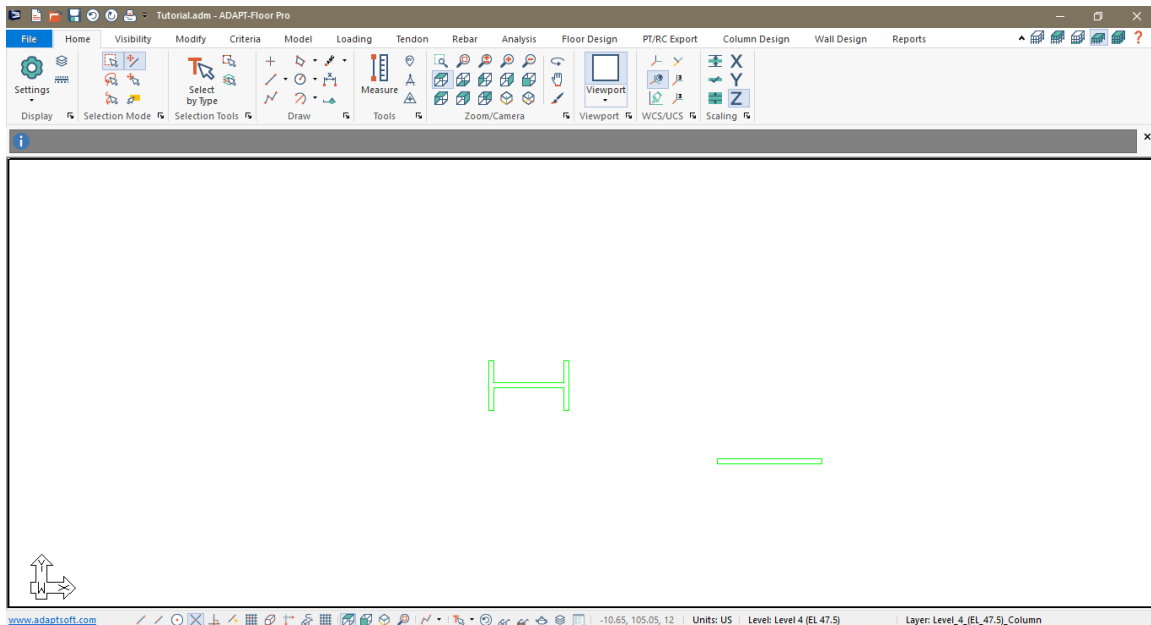

Figure 4-14
- Click on the **OK** button, the user should now see the wall polylines from the imported DWG as shown in **FIGURE 4-14**.